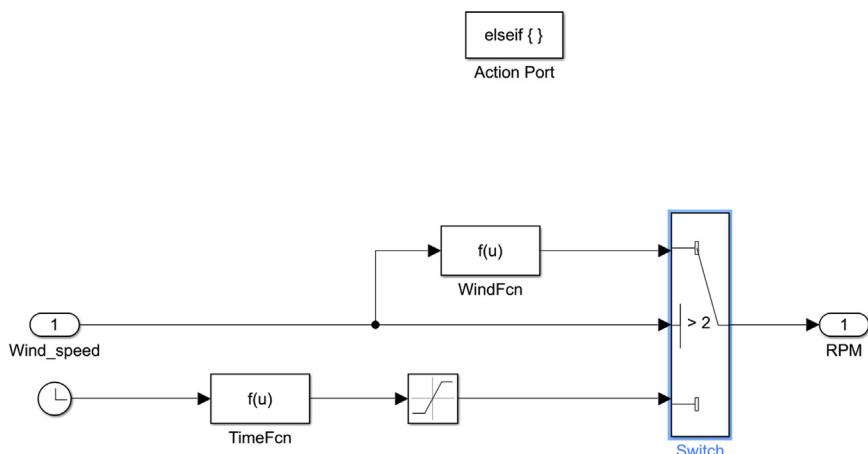

Figure 10.27 Inside the third If action subsystem block.
- b. Connect them as shown in Fig. 10.27. Rename the Fcn blocks as WindFcn and TimeFcn.